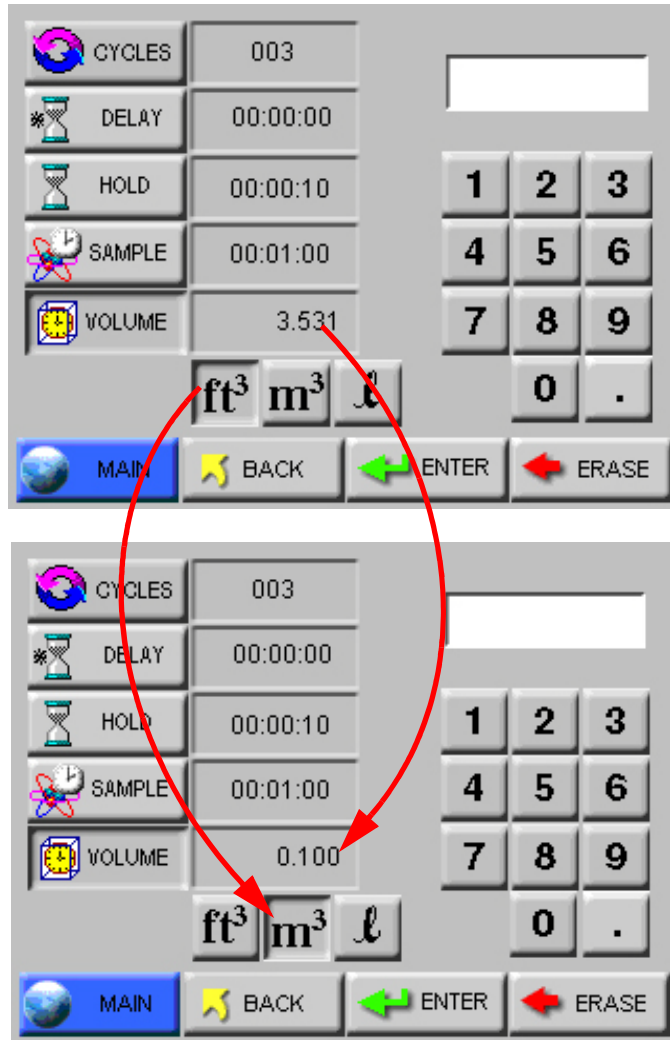

Figure 4-17 Changing Sample Volume unit of measure
- **SAMPLE VOLUME:** Instead of selecting a specific Sample Time, the instrument can be set to measure a specific Sample Volume in cubic feet (ft³), cubic meters (m³) or liters (l). When this is set, the corresponding Sample Time will automatically be set. See Figure 4-17.